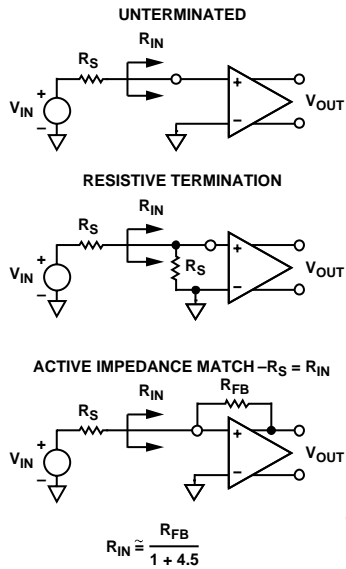
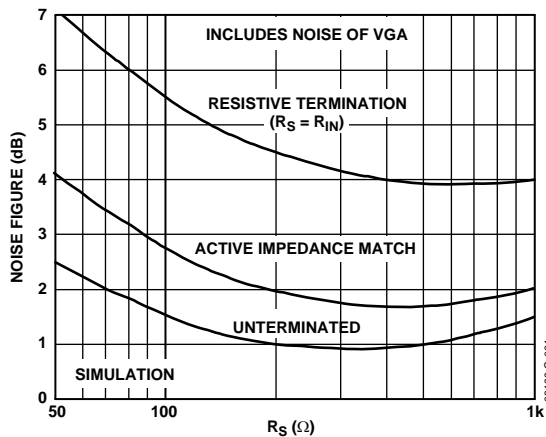
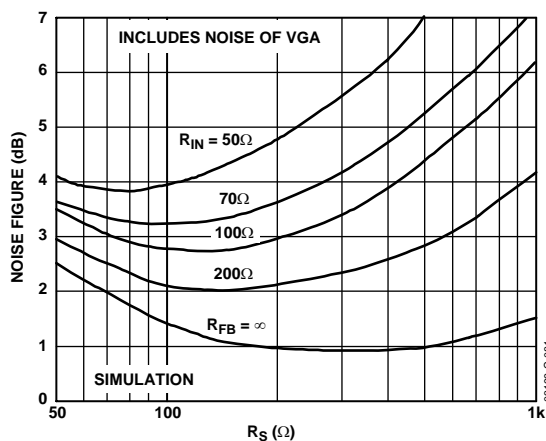

Figure 63. Input Configurations
Figure 64. Noise Figure vs.  $R_S$  for Resistive, Active Matched, and Untermated Inputs
Figure 65. Noise Figure vs.  $R_S$  for Various Fixed Values of  $R_{IN}$ , Actively Matched
The input-referred voltage noise sets an important limit on system performance. The short-circuit input voltage noise of the LNA is  $0.74$  nV/ $\sqrt{\text{Hz}}$  or  $0.82$  nV/ $\sqrt{\text{Hz}}$  (at maximum gain), including the VGA noise. The open-circuit current noise is  $2.5$  pA/ $\sqrt{\text{Hz}}$ . These measurements, taken without a feedback resistor, provide the basis for calculating the input noise and noise figure performance of the configurations in Figure 63. Figure 64 and Figure 65 are simulations extracted from these results, and the  $4.1$  dB NF measurement with the input actively matched to a  $50$   $\Omega$  source. Unterminated ( $R_{FB} = \infty$ ) operation exhibits the lowest equivalent input noise and noise figure. Figure 64 shows the noise figure vs. source resistance, rising at low  $R_s$ , where the LNA voltage noise is large compared to the source noise, and again at high  $R_s$  due to current noise. The VGA's input-referred voltage noise of  $2.7$  nV/ $\sqrt{\text{Hz}}$  is included in all of the curves.
The primary purpose of input impedance matching is to improve the system transient response. With resistive termination, the input noise increases due to the thermal noise of the matching resistor and the increased contribution of the LNA's input voltage noise generator. With active impedance matching, however, the contributions of both are smaller than they would be for resistive termination by a factor of  $1/(1 + LNA\ Gain)$ . Figure 64 shows their relative noise figure (NF) performance. In this graph, the input impedance was swept with  $R_S$  to preserve the match at each point. The noise figures for a source impedance of  $50\ \Omega$  are 7.1 dB, 4.1 dB, and 2.5 dB, respectively, for the resistive, active, and unterminated configurations. The noise figures for  $200\ \Omega$  are 4.6 dB, 2.0 dB, and 1.0 dB, respectively.
Figure 65 is a plot of the NF vs.  $R_S$  for various values of  $R_{IN}$ , which is helpful for design purposes. The plateau in the NF for actively matched inputs mitigates source impedance variations. For comparison purposes, a preamp with a gain of 19 dB and noise spectral density of  $1.0\ nV/\sqrt{Hz}$ , combined with a VGA with  $3.75\ nV/\sqrt{Hz}$ , would yield a noise figure degradation of approximately 1.5 dB (for most input impedances), significantly worse than the AD8332 performance.